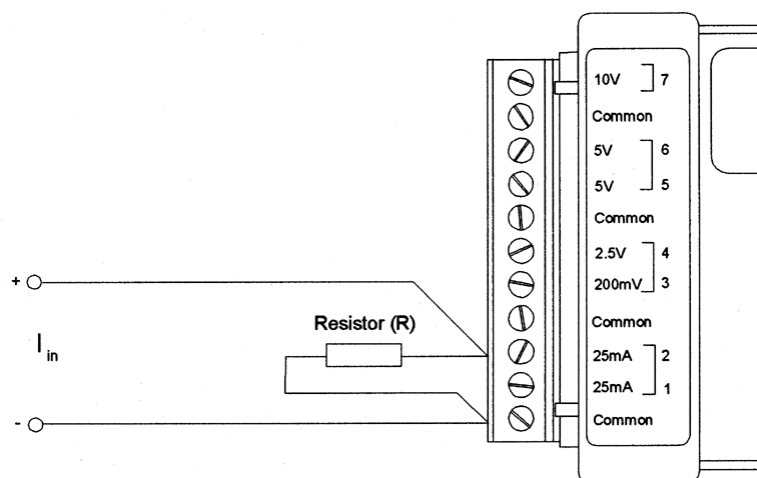

Figure 7-5: Modified 25mA Channel
The 25 milliamp channel can be modified to span higher ranges (greater than 25mA DC) by adding a single resistor across the input terminals as shown in Figure 7-5. The value of the resistor (R) can be calculated by the following the formula below, based on the desired current input range (lin) in mA**: